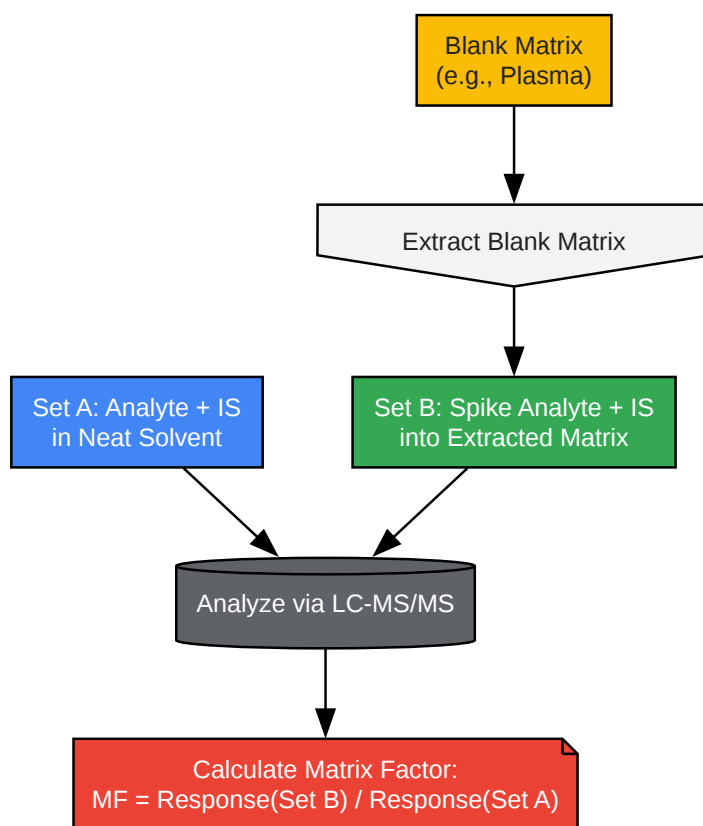

Figure 2: Workflow for Quantitative Matrix Factor Assessment
Caption: Figure 2: Workflow for the post-extraction spike experiment to determine the Matrix Factor (MF) and assess variability across different matrix lots.